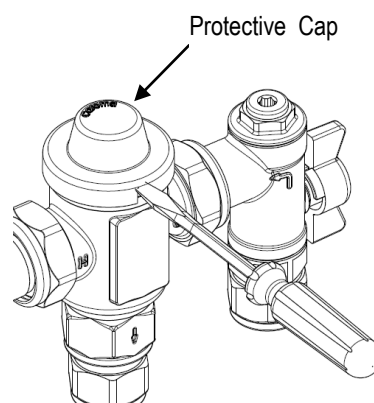

Figure 6a: Removing the Protective Cap
3. Pry off the plastic Protective Cap using a small screwdriver or similar (Figure 6a).